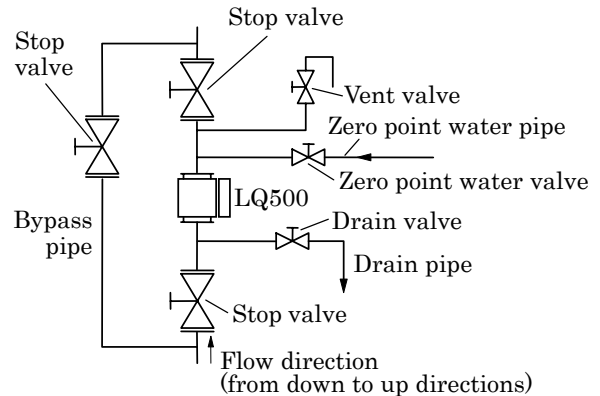

Figure 6. Recommended Installation (vertical installation)
- (2) **Install the LQ500 in a pipeline where the pipe is always filled with fluid and without bubbles or entrapped air. If these conditions are not satisfied, the measured value varies or may give an inaccurate reading. It is recommended that the LQ500 is installed at the outlet instead of the suction side.**
- (3) **Avoid places where sediment collects at the bottom of the pipe.**
- (4) Avoid places where air gets into the fluid. To avoid this problem, install the LQ500 to the outlet of a pump, not to the suction side.
- (5) When installing the detector horizontally, install it so that the RF-part of it is oriented up (that is, a pair of applicators stay horizontally) to make it easier for maintenance work and to obtain its specified performance.
- (6) The LQ500 can be installed in either direction (upstream or downstream) and without requiring a straight pipe section. Install it in a place allowing easy on-site maintenance.
- (7) Install an adjustable piping mechanism if there is a possibility that the detector pipe may not fit between mating flanges.
- (8) Install the LQ500 in a place where enough water pressure is applied. Therefore, it is recommended that the LQ500 be installed as far away as possible from the pipe outlet opened to atmosphere. This is to prevent the effects of air being trapped in the liquid.
- (9) If there is a possibility of no liquid flow or uneven liquid distribution occurring when a pump is off, use an external synch control signal to operate the LQ500 only when the pump is working.
- (10) Provide a stop valve at upstream and downstream of the detector, and between stop valves and the LQ500 provide the four valves described below with a stop valve attached to each: 1) sampling outlet valve; 2) zero point water inlet valve; 3) vent valve; and 4) drain valve. If it is not possible to stop the fluid at the point where the LQ500 is installed, provide a bypass pipe with a stop valve provided in the middle. These valves are needed to drain the fluid from the detector pipe and fill it with drinking water (density or consistency 0%) to adjust the zero point. See Figures 6 and 7.
- (11) Use gaskets for piping of the size conformed to flange rating and of the material appropriate for the liquid to be measured.